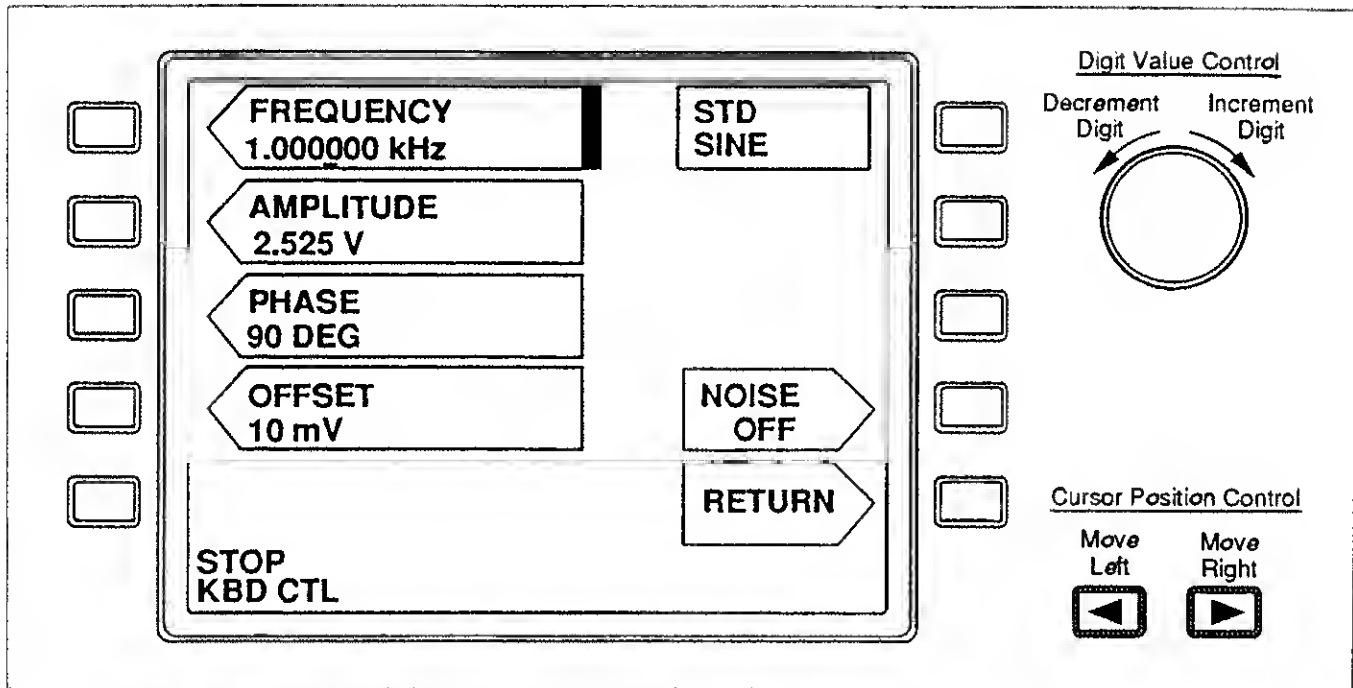

Figure 2-7. Parameter Set-Up Display Example (SINE)
- Note the cursor to the left of the submenu. To select a wave type, place the cursor next to the wave type name and press ENTER. This action calls up the parameter set-up display for the chosen wave type. For example, if you selected SINE, the parameter set-up display would look like Figure 2-7.
NOTE: The upper right-hand box in the display (Figure 2-7) is a read-only field controlled by the internal program. This is not a Softkey pointer. Pressing the Softkey adjacent to this box has no effect. Other displays may also have one of these boxes which are for displaying information only.